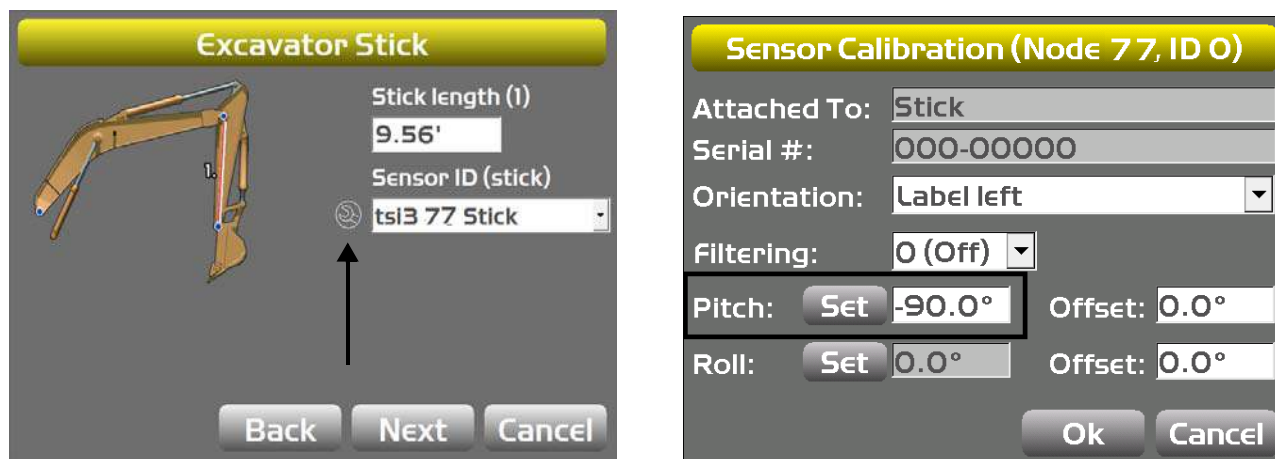

Figure 67: Set Pitch Value to -90.0
1. Tap the **Wrench**  icon that corresponds to the stick sensor (Figure 67 on page 50).
5. Tap **Set** next to **Pitch**, enter the **Pitch** value as -90.0° , and tap **Set** again (Figure 67).